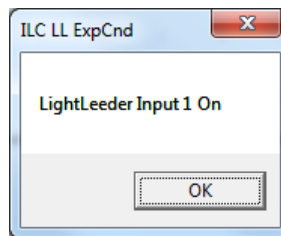

Figure 9 Test Result
4. A window will open with the results as shown in figure 9 showing the logic is true and the switch closure is sent to the panel.